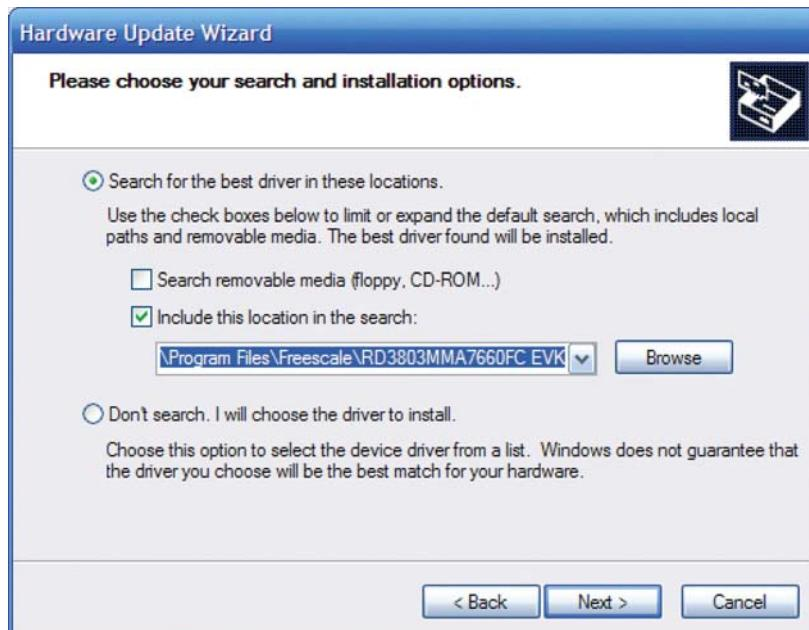

Figure 6. Hardware Update Wizard
- In the “Hardware Update Wizard” screen, select “Include this location in the search”. Include the folder location where the application was installed in, i.e. C:\Program Files\Freescale\RD3803MMA7660FC Evaluation Kit Setup (Figure 6) Select “Next” and the drivers will install.